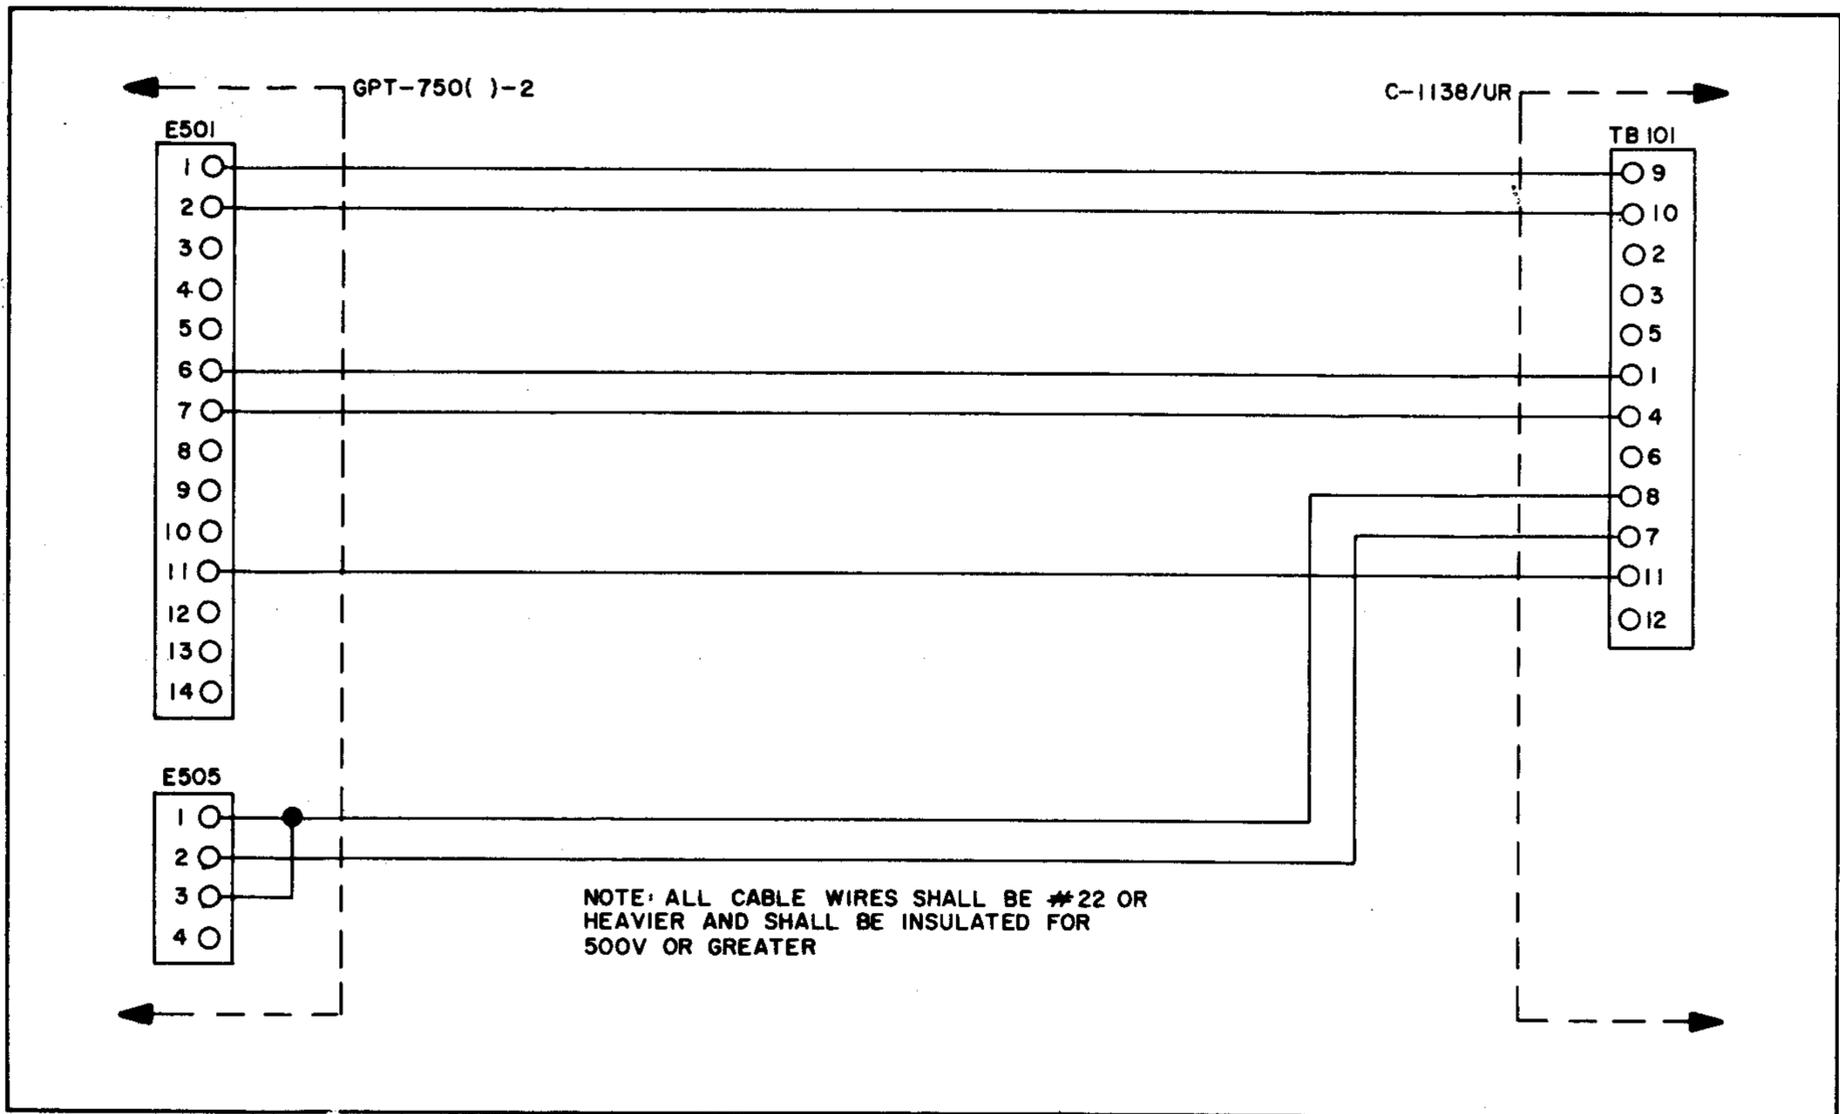
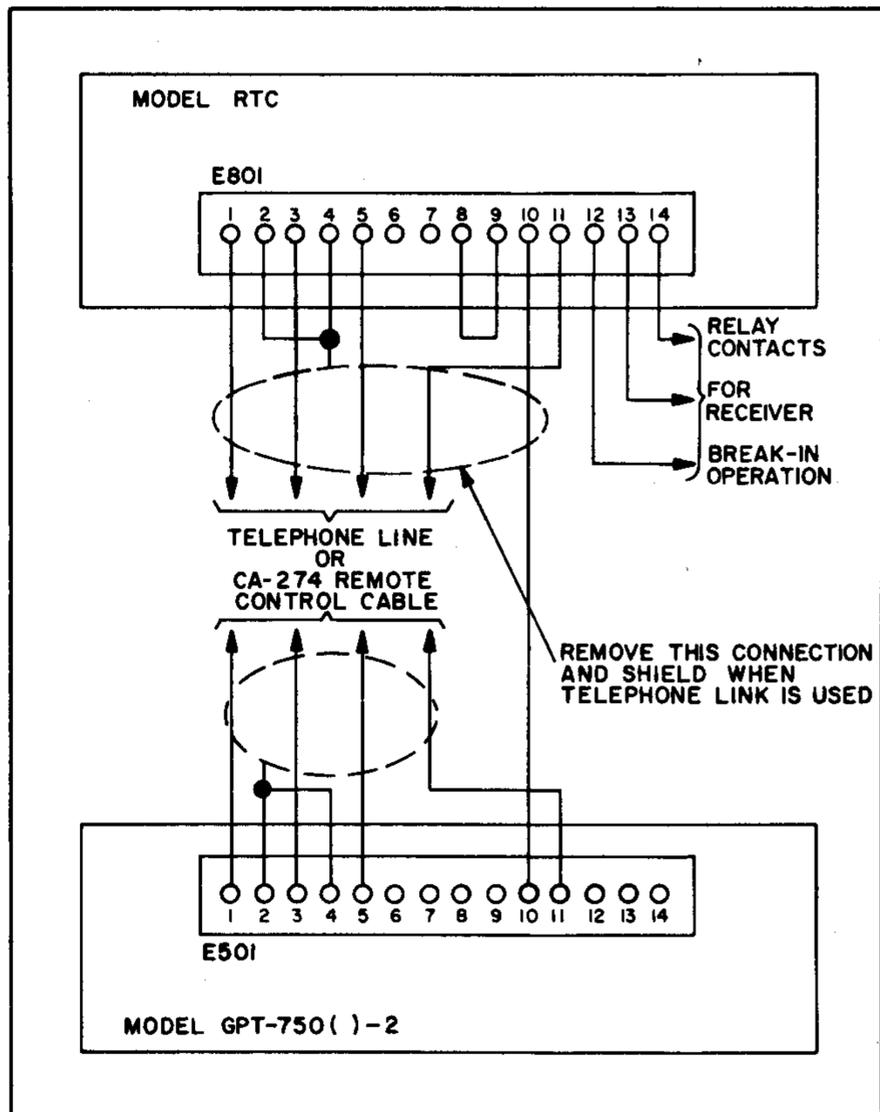

Figure 2-5. Control C-1138/UR Interconnections to Transmitter
Figure 2-6. Remote Control Amplifier Model RTC, Interconnections to Transmitter
a. The radio transmitter is designed for use with external auxiliary equipments such as Control Unit C-1138/UR, Remote Control Amplifier Model RTC, and Radiophone Unit C-1207/UR. The wiring connections between the C-1138/UR and the radio transmitter are shown in figure 2-5; the connections between the transmitter and the RTC in figure 2-6.